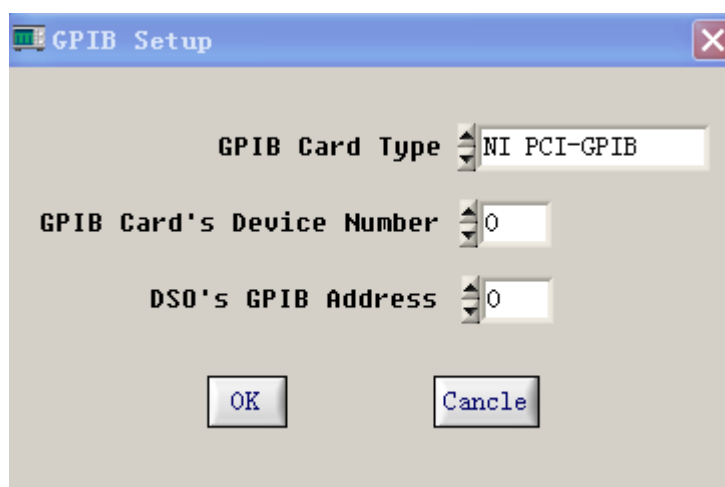

Fig 3-6
2. When “GPIB” is selected, the dialog box in Fig 3-6 will pop up.